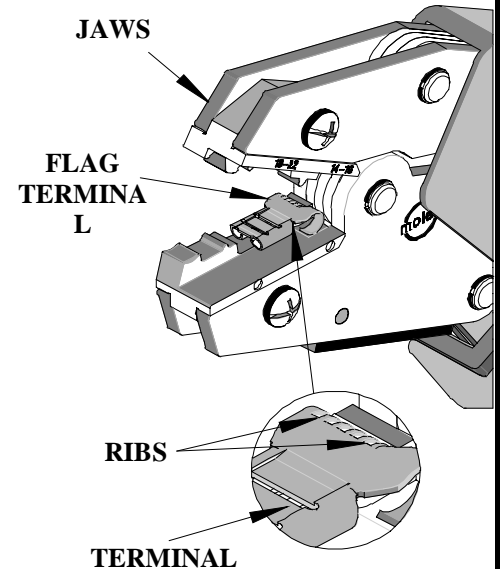

Figure 1
1. To achieve the correct conductor crimp, insert the terminal centered in the proper nest as shown in Figure 1. The crimp should be centered over the serrations (ribs), which are visible on the outside of the flag barrel. The crimp should not fall off the edge of the barrel.